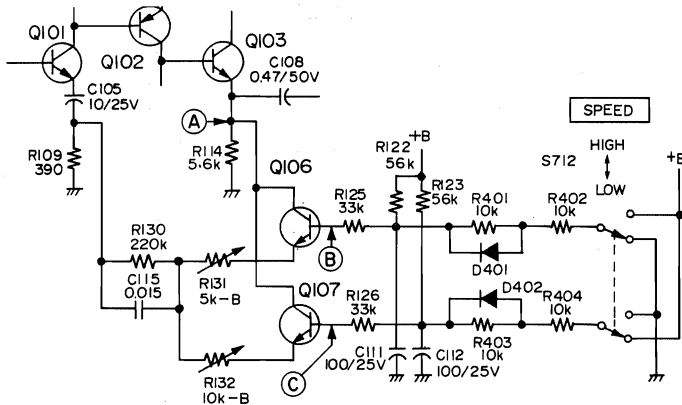

Fig. 2
Now as shown in Fig. 2, the potential at point (A) is approx. 12 V, point (B) is approx. 10 V and point (C) is approx. 12.6 V. With these conditions the collector-emitter junction of Q107 has a low resistance. High region feedback current passes through R132 and is added in. By changing the SPEED switch. (S712), conducting condition of Q106 and Q107 are changed and the feedback circuit is formed by R131.